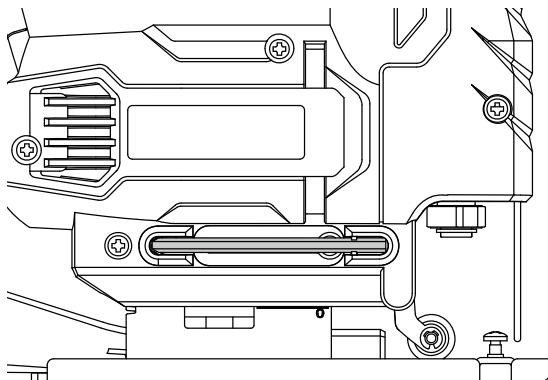

Figure 11
6. HEX KEY STORAGE (SEE FIG. 11)